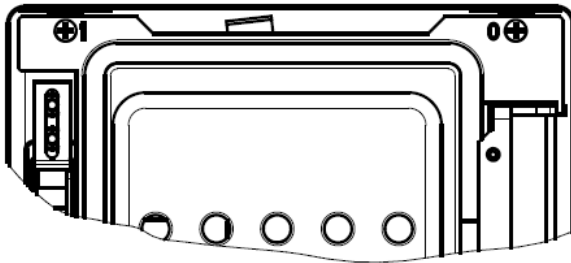

Fig 8.
The secondary air regulator is in the top of the fire door and can be set according to the fuel being used, wood (1) or coal (0) (Fig. 8).